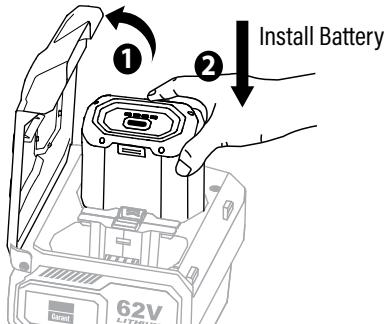

Fig. 4
1. Raise the battery cover. (1, Fig. 4)
3. Align the ribs of the battery pack with the mounting slots in the battery port. Insert the battery pack into the battery compartment until you hear a "click". Ensure that the latch snaps into place and the battery feels secure. (2, Fig. 4)